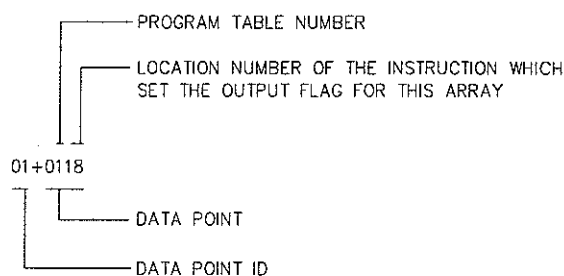

Figure 2-2 Output Array ID
1. In the default condition, the ID consists of the program table number and the instruction location number of the instruction which set the Output Flag for that particular array of data. For example, the ID of 118 in Figure 2-2 indicates that the 18th instruction in Table 1 set the Output Flag.